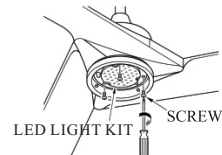

FIG.16
4. Attach LED light to light kit shade adapter with 3 screws. (see Fig. 16)